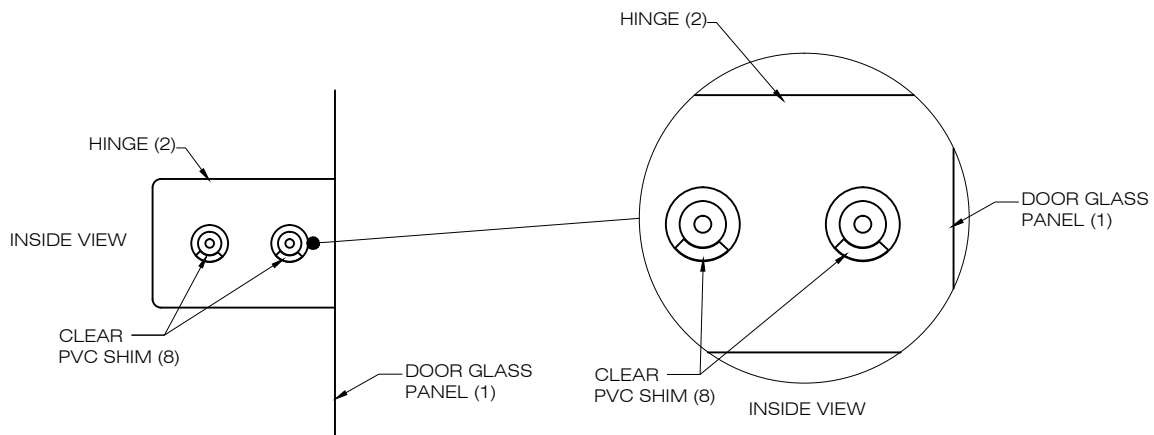

FIG.3
2. Position hinges on the door glass panel. Place a shim (#8) between the glass and the hinge on the bottom. The metal should not rest on the glass. [SEE FIG.3]